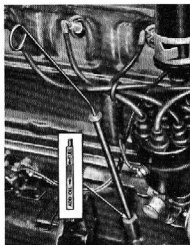

Fig. 23—Oil Gauge Rod
1. Raise the hood, remove the oil gauge rod from right side of crankcase just back of distributor (fig. 23), wipe oil from rod with clean cloth and replace. Remove gauge rod and note level of oil. If down to the "add oil" mark, oil should be added. See "Lubrication Instructions." Install oil gauge rod.